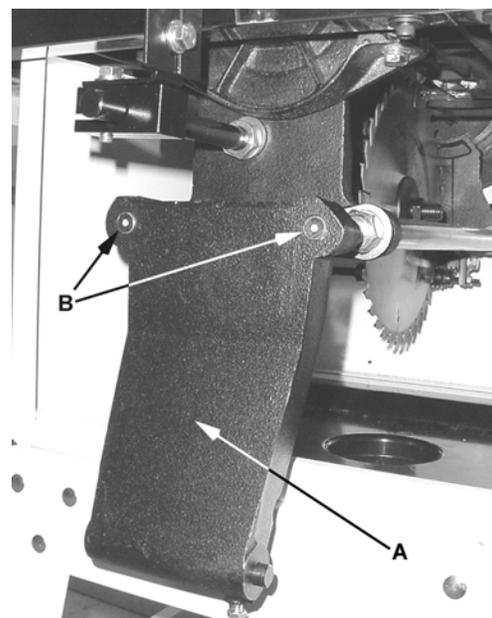

Figure 20
1. Place the *motor bracket* (A, Fig. 20) onto two *connecting rods* (B, Fig. 20) and secure by tightening two setscrews already installed in the motor bracket.